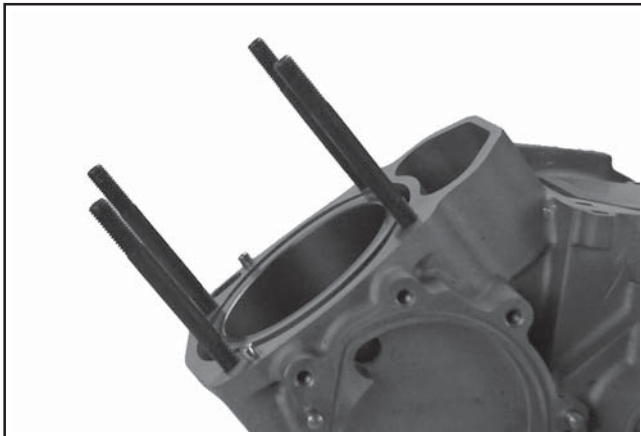

Figure 11-18. Side View of Crankcase and Studs for Height Dimension/Reference.
3. Thread the end of the stud with the Loctite® into the crankcase, until an exposed stud height of **75 mm (2.952 in.)** is obtained. The end with the dash mark must be out. See Figure 11-18. When threading in the studs, use a steady tightening motion without interruption until the proper height is obtained. The frictional heat from the engaging threads, may otherwise cause the locking compound to set up prematurely. Remove the two nuts.